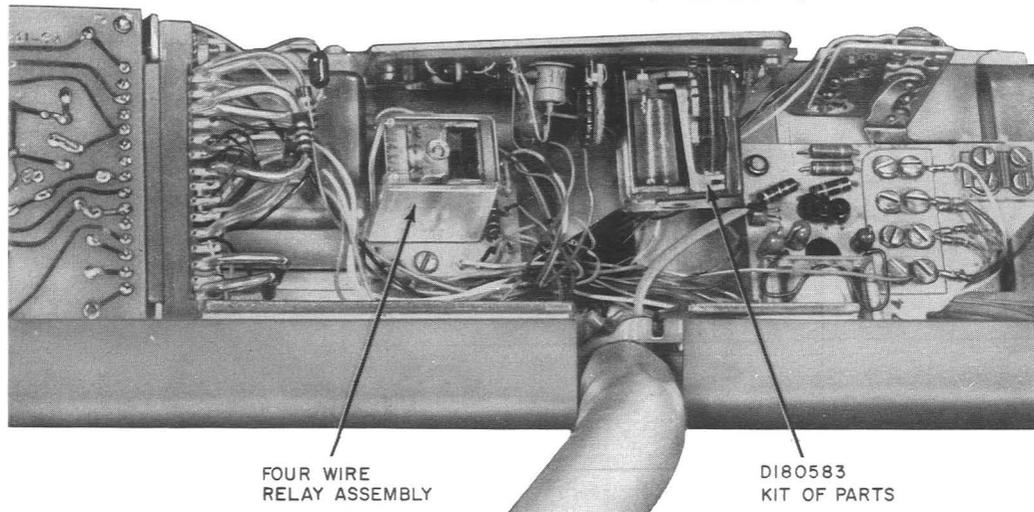

Fig. 4—Addition of Time Flash Unit (D180583 Kit of Parts) to 120-Type Supervisory Console
2.08 A printed wiring board with one miniaturized relay is required when the CAS feature is requested. This board mounts in the 120-type console as shown in Fig. 4.